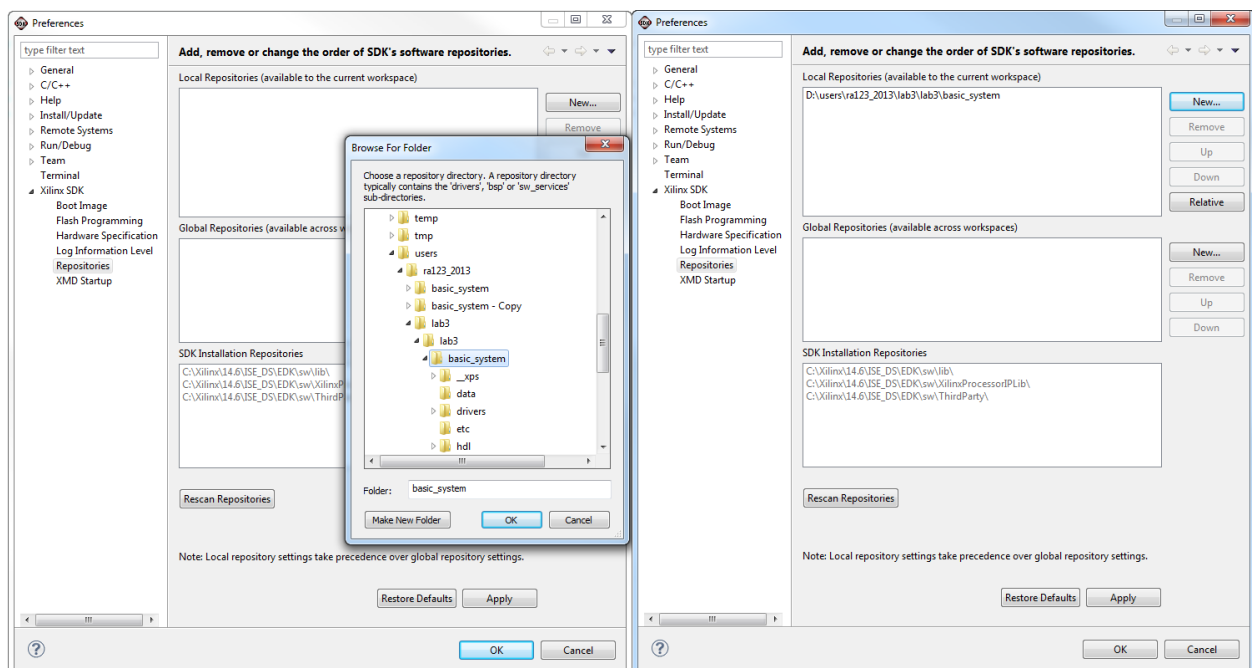

Figure 41: SDK, Add SW Repository Path
5. Browse to the current project path where the CIP Wizard generate driver template Figure 41. Click OK.